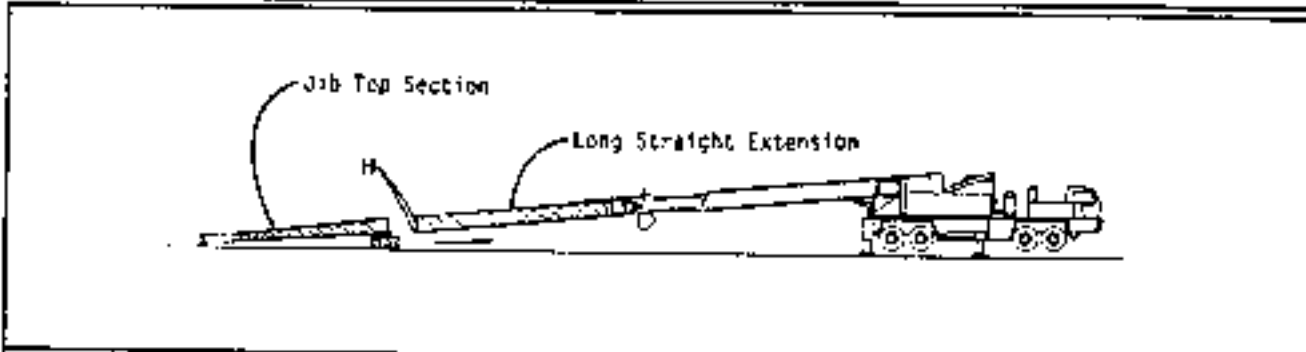

Fig. 4-55
- Step 6: Construct blocking that is secure and stable. Take care not to bump, or knock jib sections from blocking. Boom down onto blocking as in Fig. 4-55. Remove pins at "H" to disconnect top section from the long straight extension; Retract boom tip section.